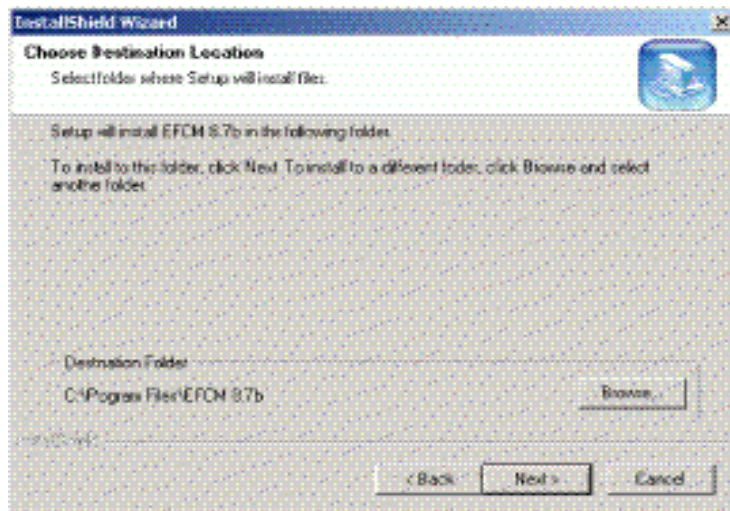

Figure B-1 InstallShield Wizard Dialog Box
12. Click *OK*. The *InstallShield* third-party application prepares to install the software version, and opens the *InstallShield Wizard* dialog box (Figure B-1).